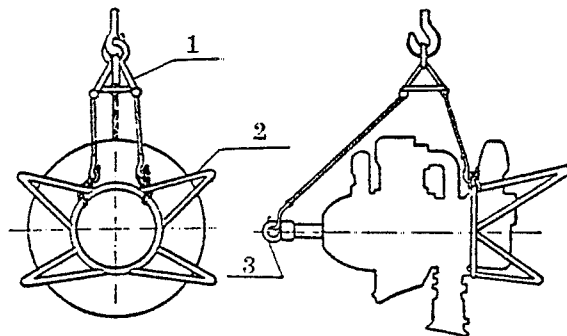

Fig. 2 Scheme of Installing the Engine Hoist
I. Install the hoist as shown in Fig. 2 and sling the engine by means of a crane (the lifting weight is not less than 500kg). Then remove the connecting bolt of the slant stay rod and fuselage and lower down the engine.
(2) Engine installation.
B. Open the cover of the engine box, install the hoist as shown in Fig. 2, and sling the engine by means of a crane. Afterwards, remove the engine mounting and install the slant stay rod.
- (3) Work to be done after engine replacement.